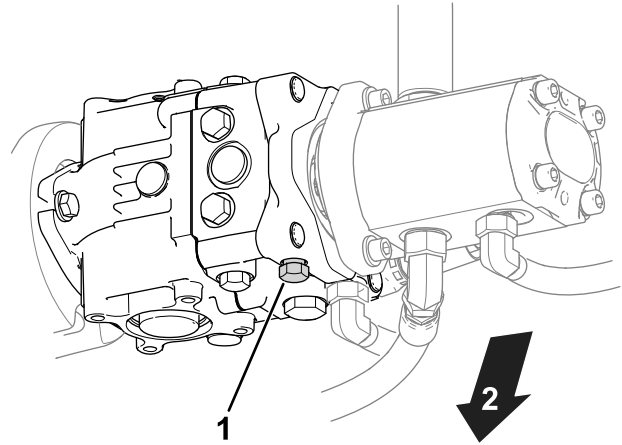

Figure 36
1. Locate the bypass valve on the pump (Figure 36).